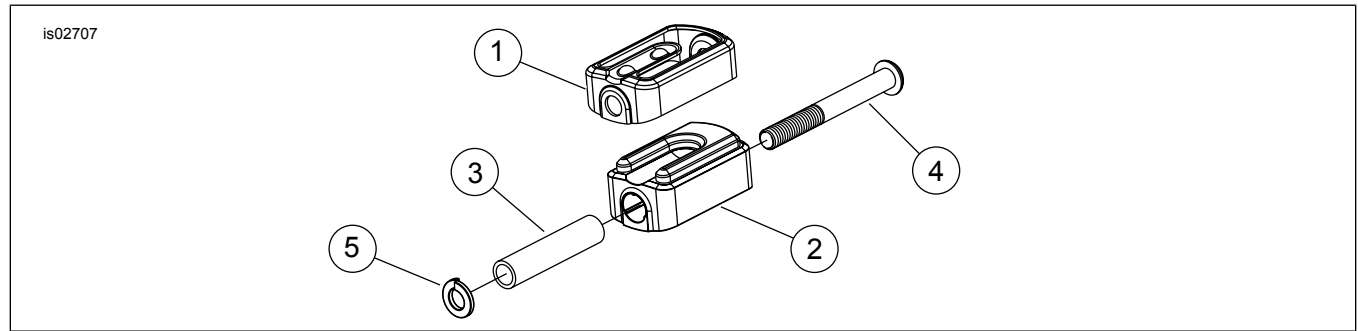

Figure 1. Service Parts: Ironside Shifter Peg Kit
See Figure 1 and Table 1.
2. See Figure 1. Insert the screw (4) through the peg (1), tread (2), spacer (3), and lockwasher (5) into the shift lever. Tighten the screw to 15–20 N·m (11–15 ft-lbs).